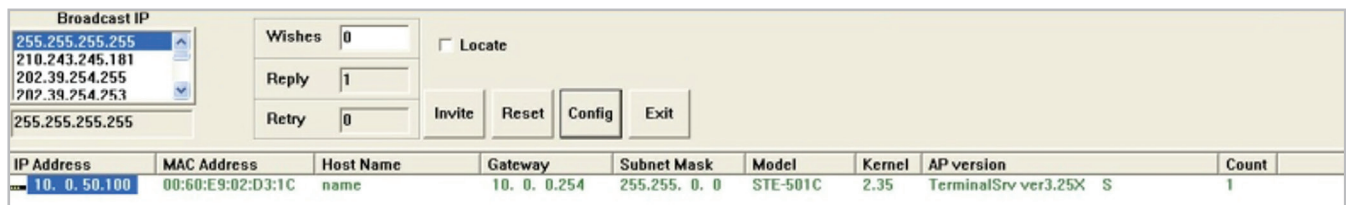
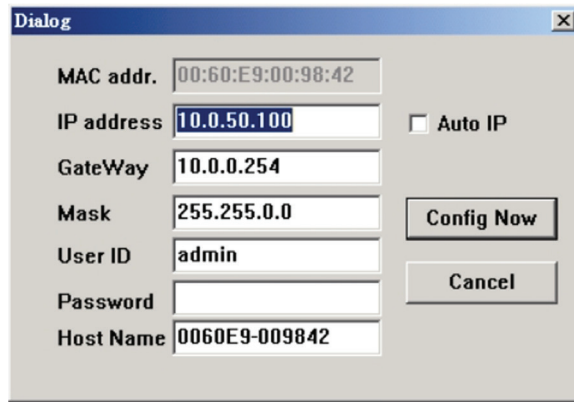

Figure 3.1 Configure by monitor.exe utility
Figure 3.2 Static IP setup dialog window
Use **monitor.exe** (available at www.linear-solutions.com) to configure the network parameters of AM-SEK. Click **Config** (see Figure 3.1), then enter static IP information (see Figure 3.2).
1. Execute Monitor.exe (see Figure 3.1).